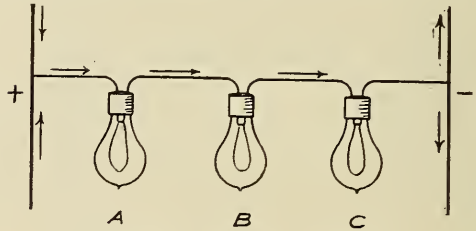

FIG. 173. LAMPS IN SERIES
multiple mains as shown in Fig. 173. In this case, the current, instead of passing from the mains in parallel through the three lamps (A), (B) and (C), passes through them in series. This series connection is convenient with lamps designed for use in a candelabra. In lamps of this character although fairly lengthy filaments are used, yet the resistance is comparatively low.